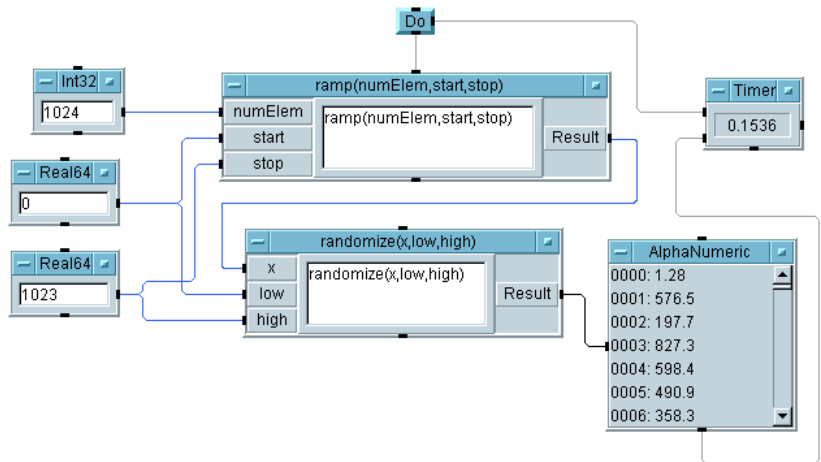
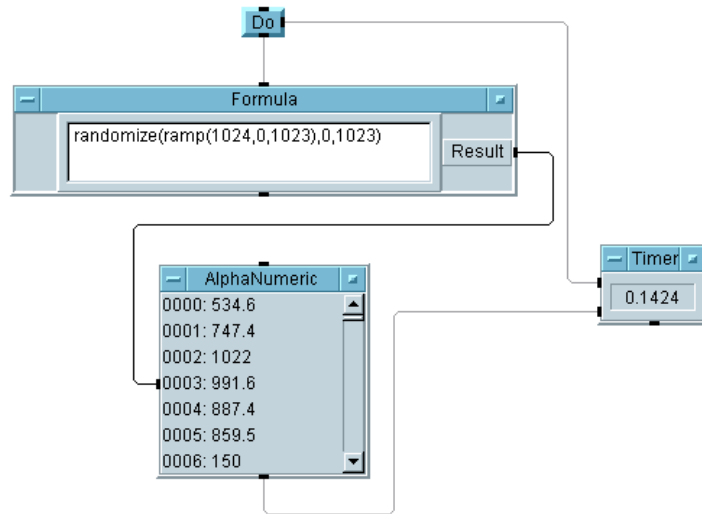

Figure 284 Function Calls without Optimization
Figure 285 Function Calls with Optimization
- 2 Nest function calls within other function parameter lists. For instance, in Figure 284, the function `randomize` uses the array generated by the function `ramp`. In Figure 285, the function call to `ramp` is nested in the call to `randomize`, resulting in slightly faster program execution.